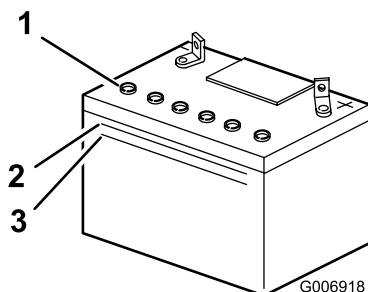

Figure 34
- Look at the side of the battery. The electrolyte must be up to the upper line (Figure 34).
Note: do not allow the electrolyte to fall below the lower line (Figure 34).
- Remove the filler caps (Figure 34).
- Slowly pour distilled water into each battery cell until the level is up to the lower part of the tube (Figure 34).